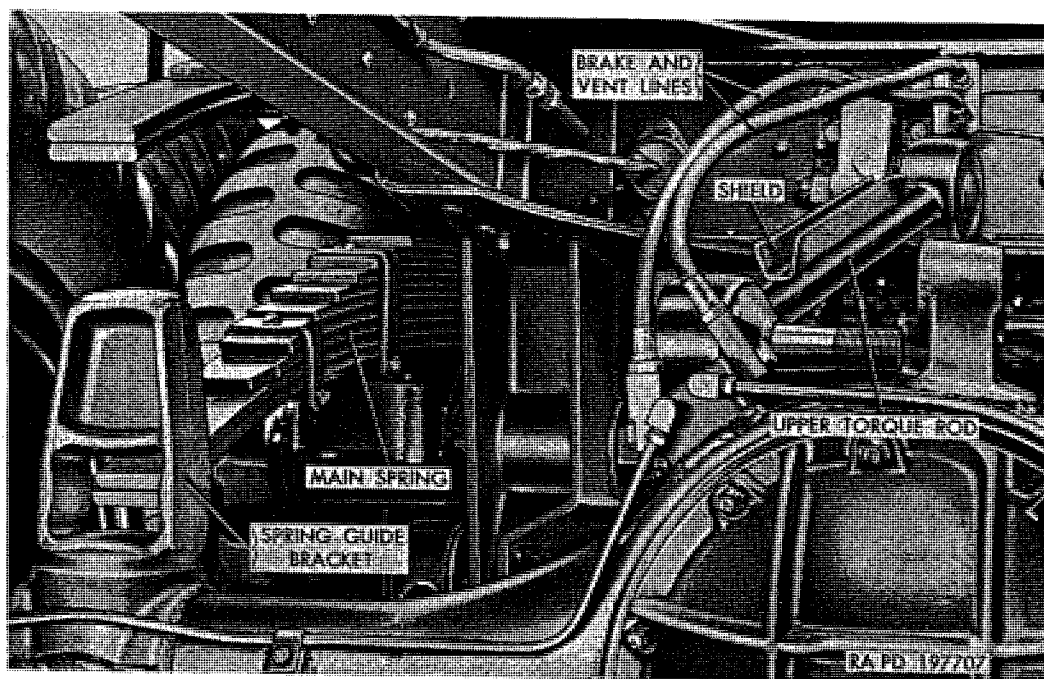

Figure 292. Main spring and upper torque rod disconnected.
- (5) Place jack under forward rear axle and raise axle until tires just clear ground. Slide spring forward into spring guide bracket on forward axle. Spring end will not quite clear spring guide bracket (fig. 292) on rear rear axle.
- (6) Disconnect upper torque rod (fig. 292) at rear rear axle by removing nut from end of tapered pin; then driving pin from bracket using a soft metal hammer.